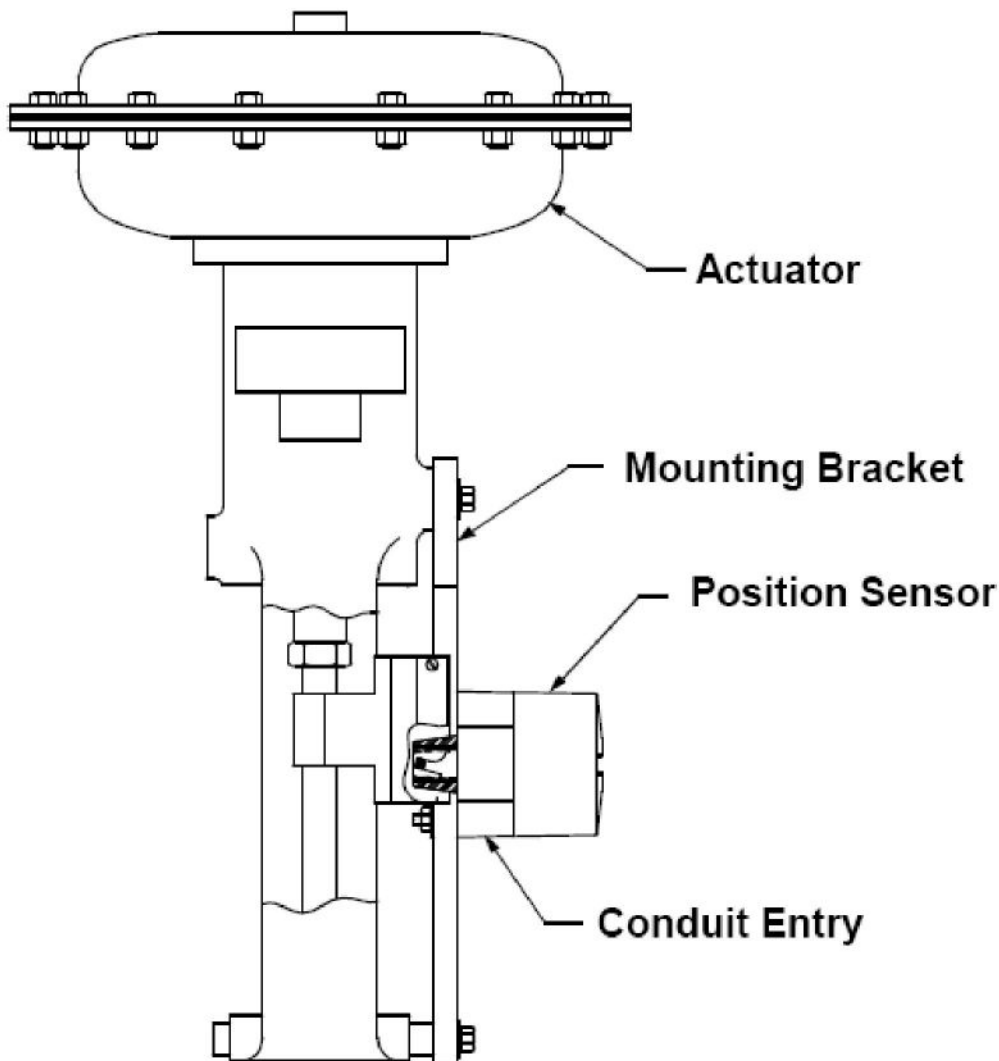

Figure 3-9
Step 2. Mount the position sensor housing so that the conduit entry faces away from the diaphragm or cylinder. (See Figure 3-9)